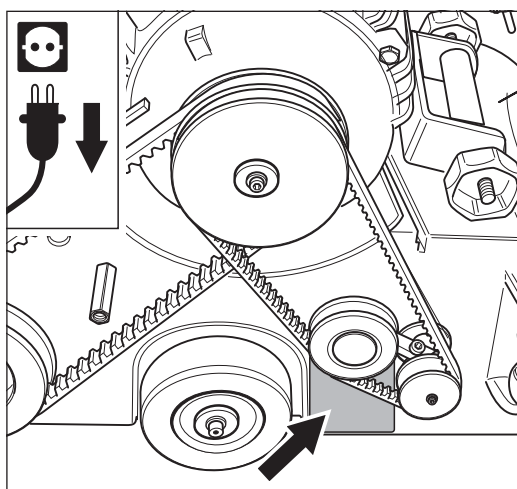
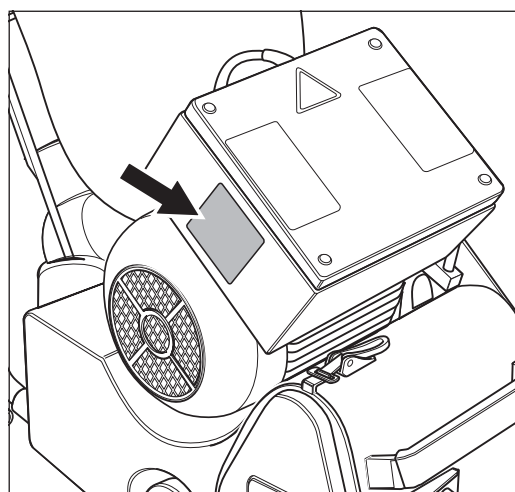

Fig. 3 Machine type plate on machine housing.
Fig. 6 Motor type plate on switch box.
- 4 The machine type plate is located on the machine housing below the belt tensioner (fig. 3).
The motor type plate of the HUMMEL® is located on the switch box of motor (fig. 6).
Serial number	see type plate (fig. 3, fig. 6)
Year of manufacture	see type plate (fig. 3, fig. 6)